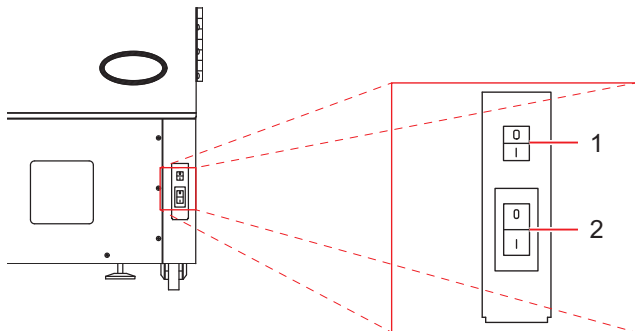
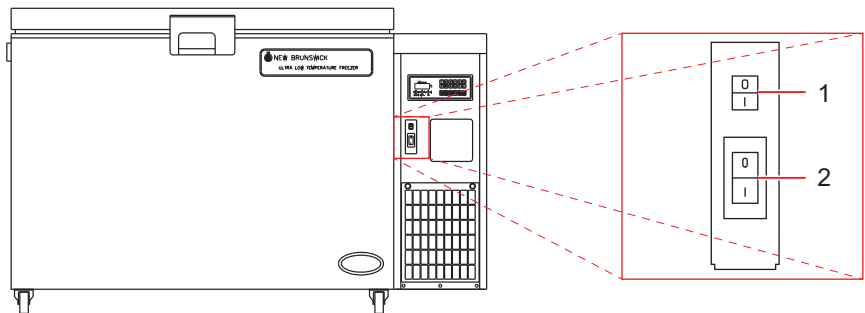

Fig. 4: Upright freezers switch location
Fig. 5: Chest freezers switch location
The equipment is delivered with the battery deactivated. The Power Fail alarm is activated by the battery rocker switch within the lockable panel, which is located at the bottom right-hand corner. The switch is labelled **I (ON)** and **O (OFF)** (see Fig. 4 on p. 19) and (Fig. 5 on p. 19).